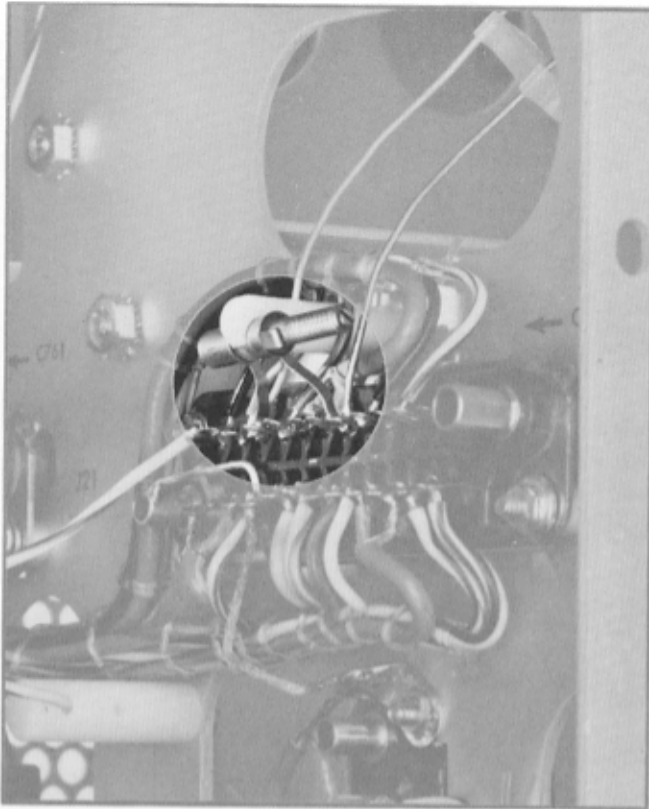
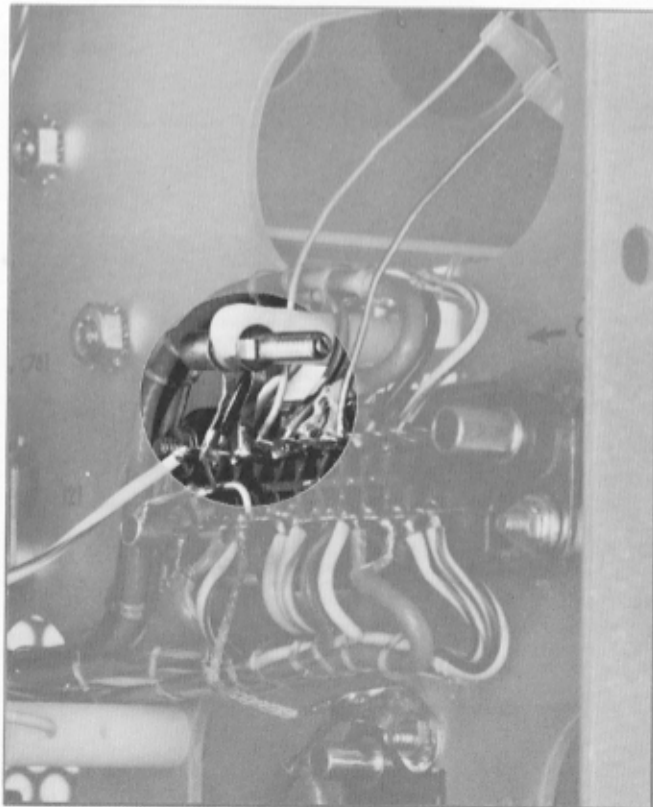
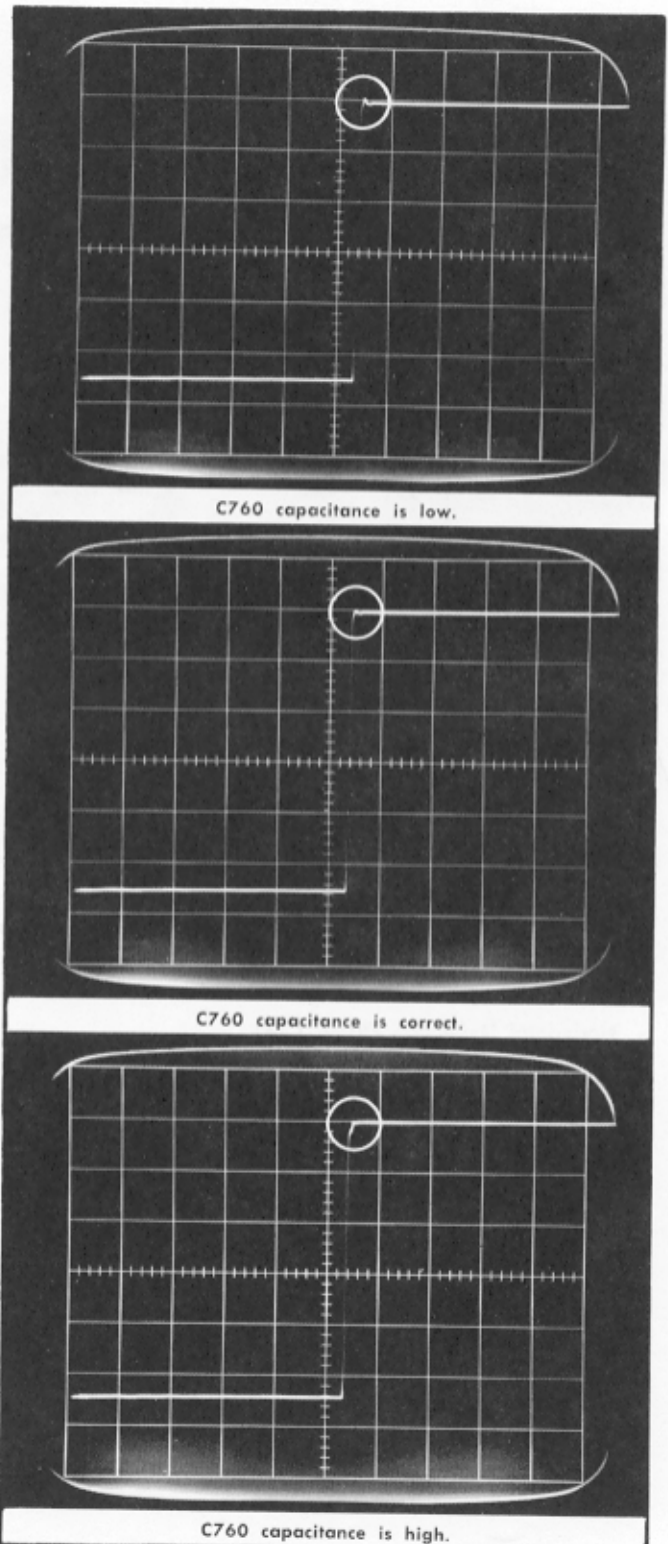

Fig. 5-20. Normal location of C760, step 10a.
Fig. 5-21. Alternate location of C760, step 10a.
Fig. 5-22. Waveforms for step 10a.
Use the low-capacitance tool (item 16) to adjust C760 for best flat-topped square-wave display. (C760 is shown in Figs. 5-20 and 5-21.) Proper compensation is shown in Fig. 5-22. It may be necessary to position the leads to the deflection plates to aid in obtaining a good square-wave
display. C760 is to be located as in Fig. 5-20 unless correct compensation is impossible; then move it to the position between terminal 21 and chassis as shown in Fig. 5-21.